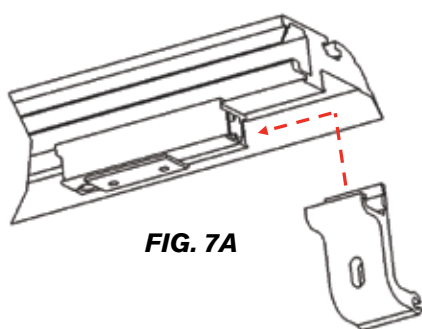
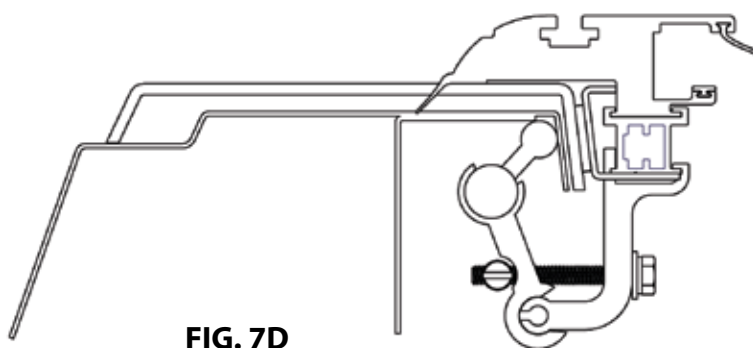

FIG. 7A
FIG. 7D
- Secure the rails to the truck bed by installing two clamp assemblies per rail. Slide the Clamp Grip onto the Clamp Extension toward the Shim Bracket (FIG 7A and 7B). Then, assemble the rest of the clamp parts as shown below (FIG 7D).